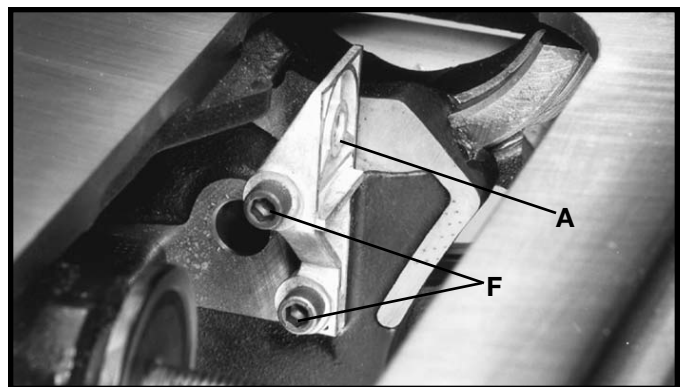

Fig. 15
5. If an adjustment is necessary, loosen two screws (F) Fig. 15, and adjust splitter bracket (A) until it is aligned with the blade flange; tighten two screws (F). Loosely reassemble screw and plate removed in STEP 3.